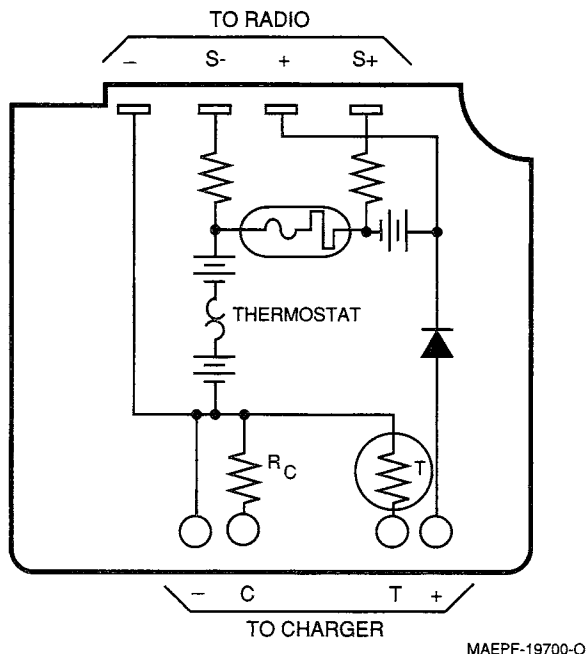

Figure 1. Typical Battery Construction, Rear View
2. BATTERY CONSTRUCTION (See Figure 1)